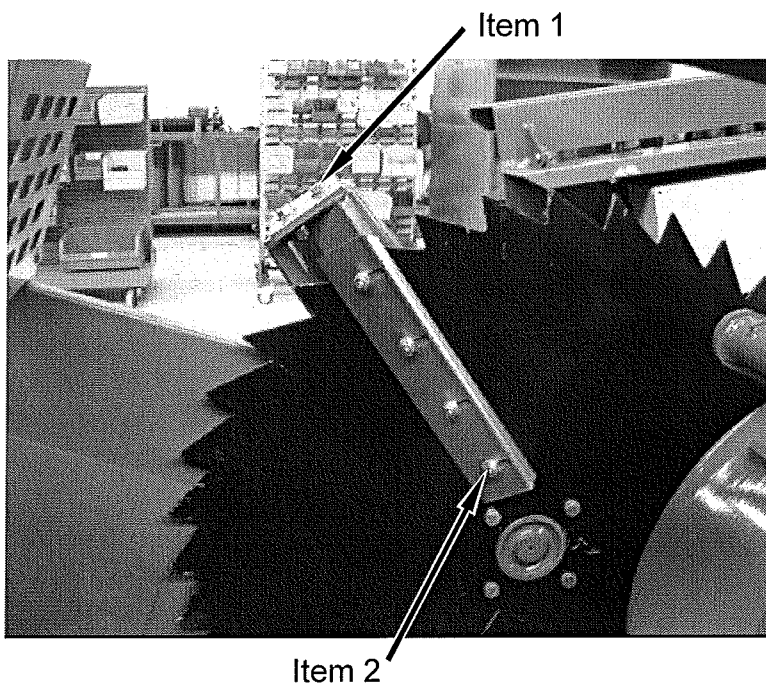

Fig 6.7
Disc scrapers will need to be adjusted to suit new disc position, and should be adjusted so that they are just clear of the disc surface. These are adjusted by slackening clamp bolts (fig 6.7 item 1) repositioning scraper and retightening.
As the disc scraper wears it can be adjusted closer to the disc by slackening clamp bolts (fig 6.7 item 2) repositioning scraper and retightening.